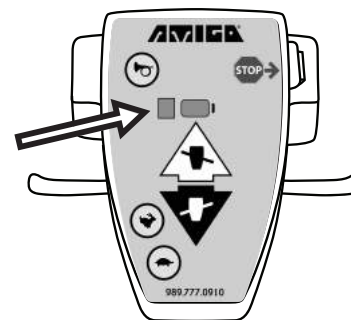

FIGURE 14
The Amigo controller has a built-in diagnostic feature that will cause the diagnostic LED lights (Figure 14) to flash a numeric code, indicating service issues to aid in diagnosis. When indicating a service problem, the diagnostic lights will flash, hesitate for a moment, and then flash again. Follow the code listings below to determine the problem. Solutions should be attempted in the order they are written. If the code indicates a service problem, contact your local service representative or call the Amigo service department at (989) 777-0910 for instructions to verify and correct the problem.